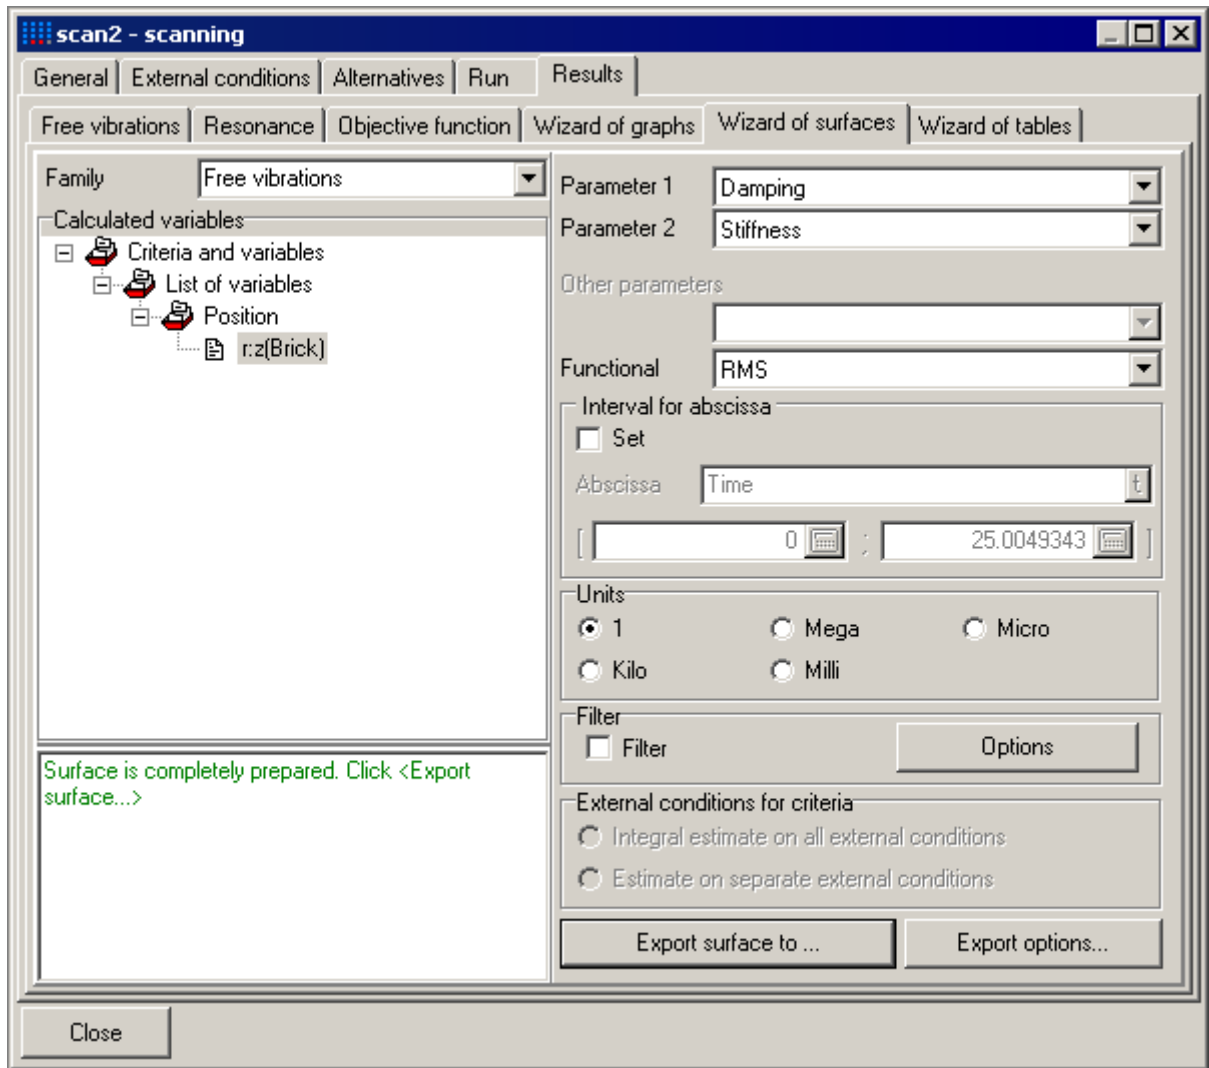
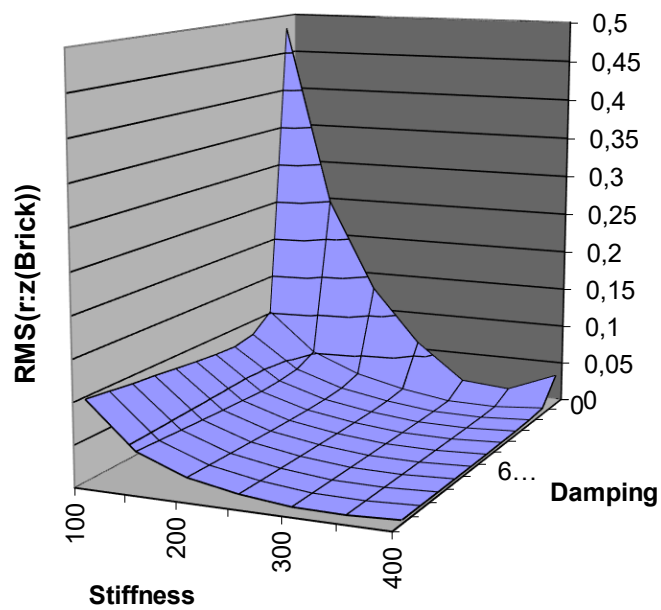

Figure 6.19. Wizard of surfaces
Figure 6.20. Exported surface
Wizard of surfaces is intended for creating the response surface as functional of any calculated variable in dependence on two any design parameters keeping other parameters constant. Working with **Wizard of surfaces** make sense if scanning has at least two design parameters. **Wizard of surfaces** is quite similar to **Wizard of graphs**. An example of using the **Wizard of surfaces** is given in Figure 6.19. Corresponding surface in *Microsoft Excel* is given in Figure 6.20.
- Select the family, calculated variable or criterion and necessary functional, see Figure 6.19.